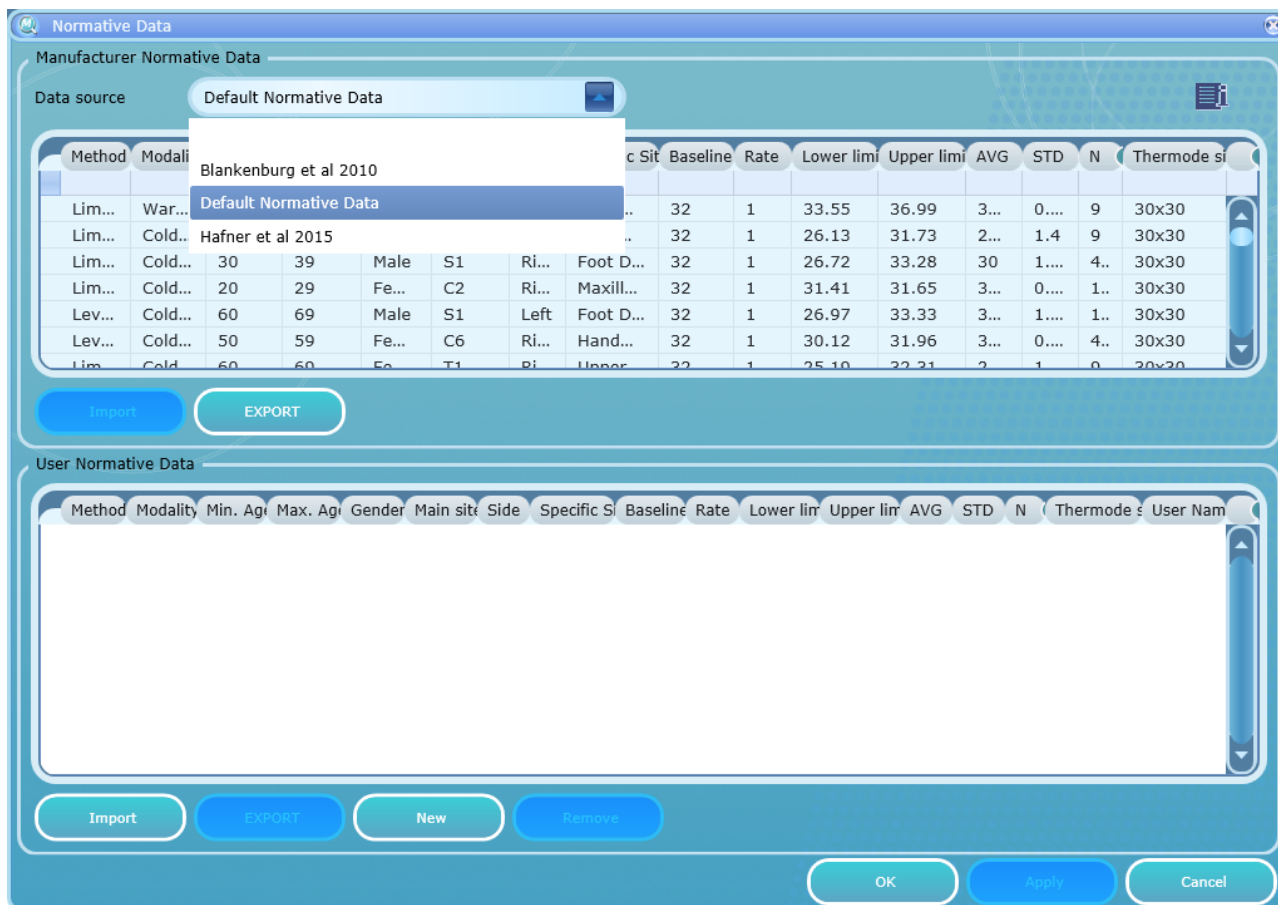

Figure 96: Normative Data screen select source
2. Click the arrow to right of the data source name. A list will open displaying the list of available sources. See Figure 96.